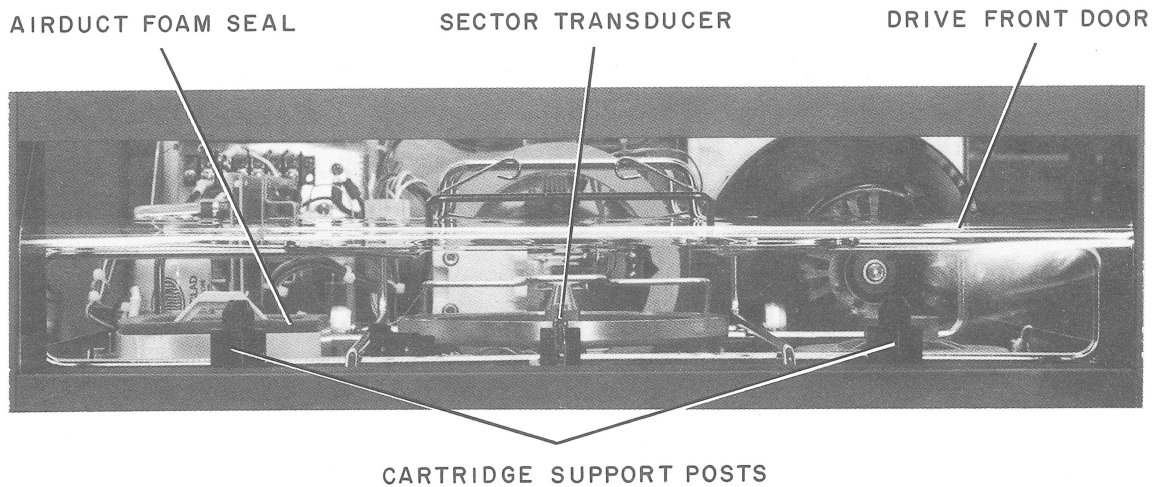

Figure 5-25 Cartridge Seating Elements
- a. Ensure that there is a clearance between the lip on the metal disk hub and the sector transducer slot (Figure 5-25).